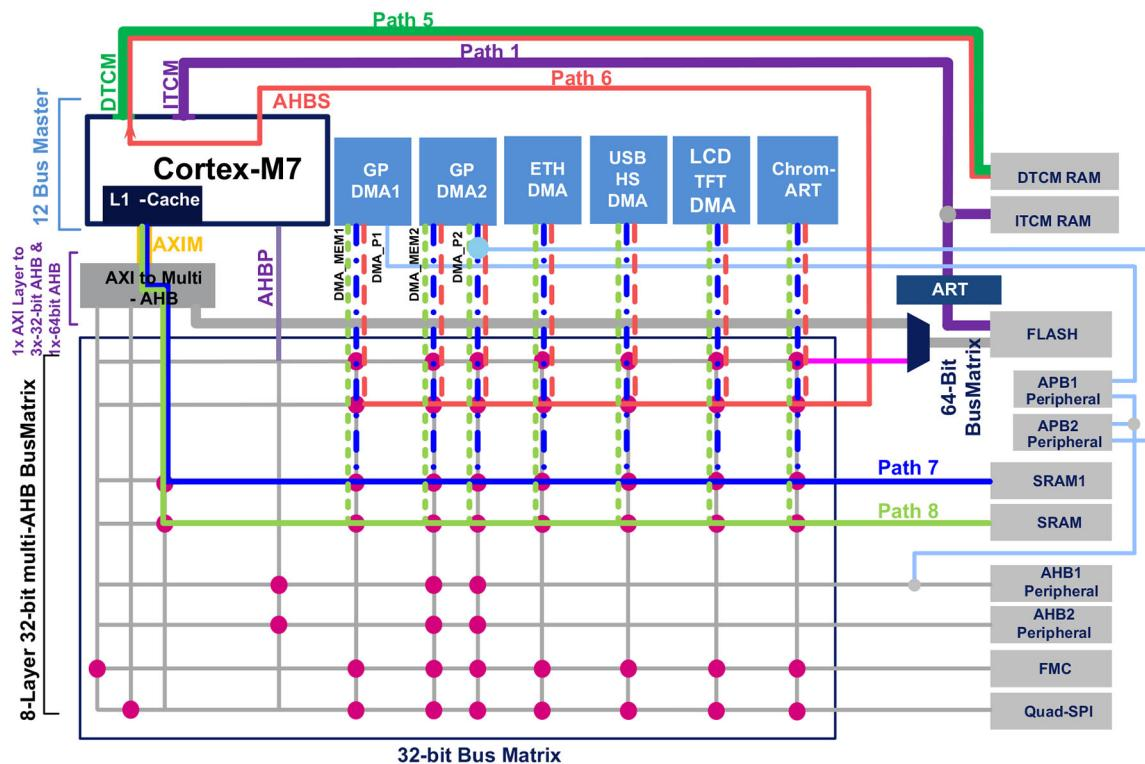

Figure 21.5: The four SRAM memories available in STM32F7 microcontrollers
Looking at Figure 21.5¹², there is another important thing to note. As you can see, STM32F7/H7 microcontrollers offer four distinct SRAM memories, accessible through three separated paths:
- **The instruction RAM (ITCM-RAM)**, mapped at the address 0x0000 0000 and accessible only by the core, that is, through Path 1 in Figure 21.5. It is accessible by bytes, half-words (16 bits), words (32 bits) or double words (64 bits). The ITCM-RAM can be accessed at a maximum CPU clock speed without latency. The ITCM-RAM is protected from a bus contention since only the CPU can access to this RAM region. The ITCM-RAM plays the same role of the CCM memory
- The **data RAM (DTCM-RAM)**, mapped on the TCM interface at the address `0x2000 0000` and accessible by all AHB masters from the AHB bus Matrix: by the CPU through the DTCM bus (Path 5 in **Figure 21.5**) and by DMAs through the specific AHBS “bridge” in the Cortex-M7 core (Path 6 in **Figure 21.5**). It is accessible by bytes, half-words (16 bits), words (32 bits) or double words (64 bits). The DTCM-RAM is accessible at a maximum CPU clock speed without latency. The concurrent accesses to the DTCM-RAM by the masters (core and DMAs) and their priorities can be handled by the slave control register of the Cortex-M7 core (`Cortex-M7_AHBSR` register). A higher priority can be given to the CPU to access the DTCM-RAM versus the other masters (DMAs). For more details of this register, please refer to “ARM Cortex-M7 processor Technical Reference Manual”.
- The **SRAM1**, accessible by all the AHB masters from the AHB bus Matrix, that is, all general purpose DMAs as well as dedicated DMAs. The SRAM1 is accessible by bytes, half-words (16 bits) or words (32 bits). Refer to **Figure 21.5** (Path 7) for possible SRAM1 accesses. It can be used for the data load/store as well as the code execution (even if it does not offer any specific performance boost).
- The **SRAM2**, accessible by all the AHB masters from the AHB bus matrix. All the general purpose DMAs as well as the dedicated DMAs can access to this memory region. The SRAM2 is accessible by bytes, half-words (16 bits) or words (32 bits). Refer to **Figure 21.5** (Path 8) for possible SRAM2 accesses. It can be used for the data load/store as well as the code execution (even if it does not offer any specific performance boost).